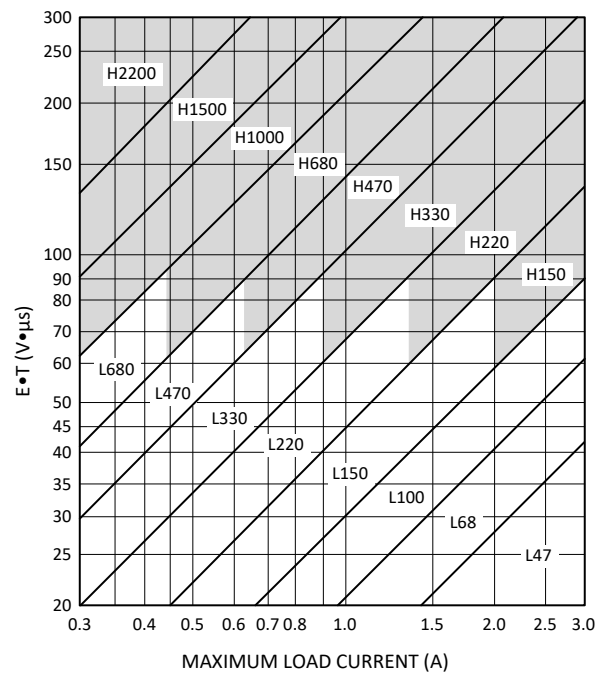

Figure 25. LM2576-ADJ
2) Use the $E \times T$ value from the previous equation and match it with the $E \times T$ number on the vertical axis of the Inductor value selection guide shown in Figure 25.